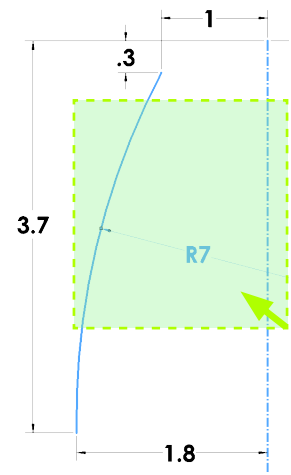

Fig. 6
Step 2. **Drag a selection to left across arc and vertical centerline, Fig. 6.**